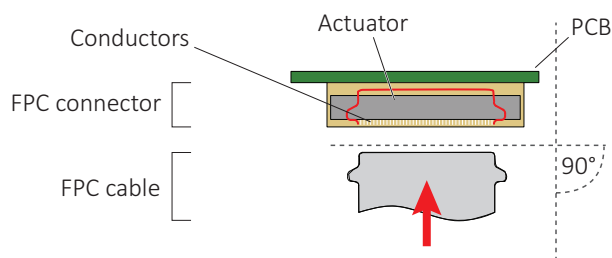
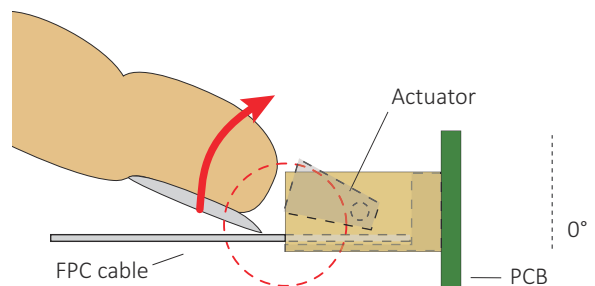

Figure 25: FPC cable and FPC connector
Figure 26: Engaging the FPC cable in the FPC connector
2. **Ensuring proper cable direction between host and camera**, take the FPC cable with conductors facing the FPC connector conductors (see Figure 25).
At a horizontal angle of 90° to the connector's rear (see Figure 25) and at a vertical angle of 90° to the PCB (see Figure 26), slowly insert the FPC cable into the actuator...
4. ...until the FPC cable touches the inside shell of the FPC connector (see Figure 25).
5. Holding the FPC cable in position, flip up the actuator until it engages in closed position (see Figure 26).